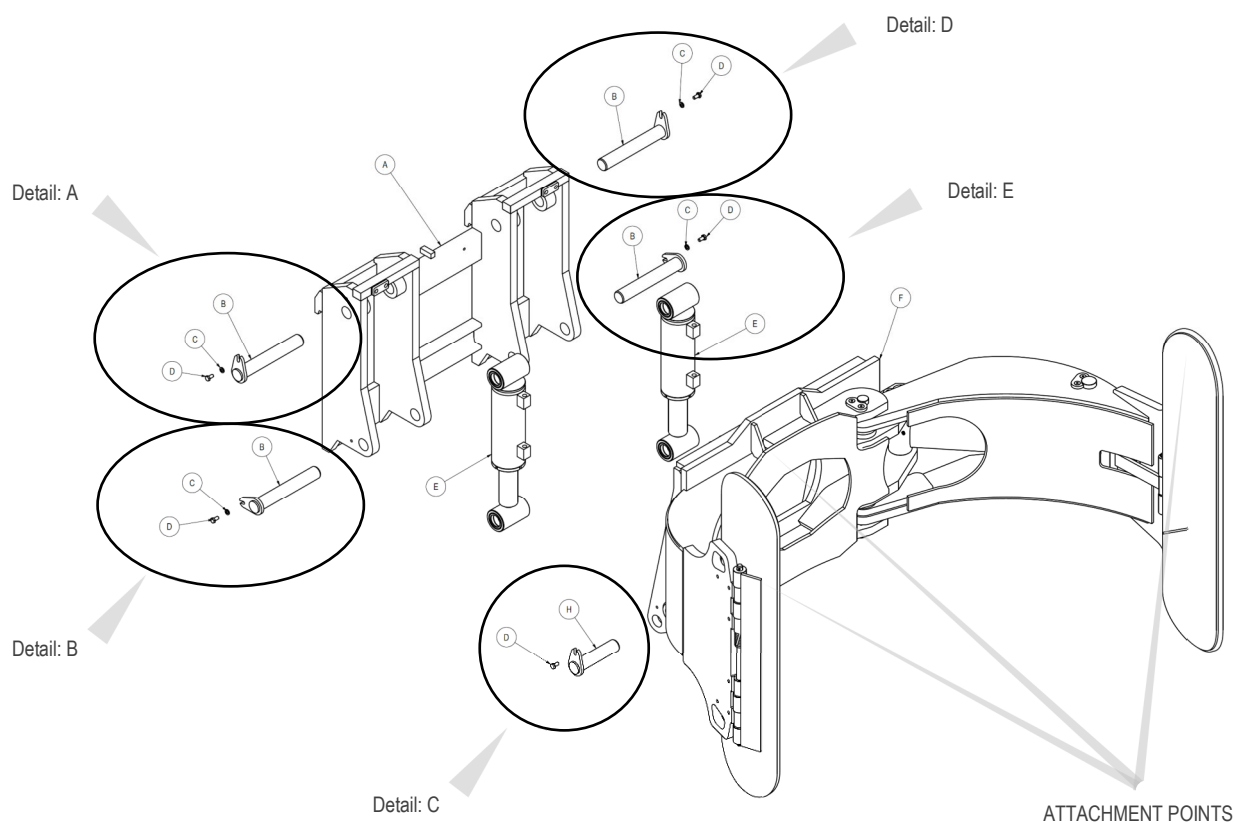

Figure 2
2. Remove the equipment from the forklift using the attachment points indicated in Figure 2;
3. Keep the equipment safe using the attachment points indicated in Figure 2;